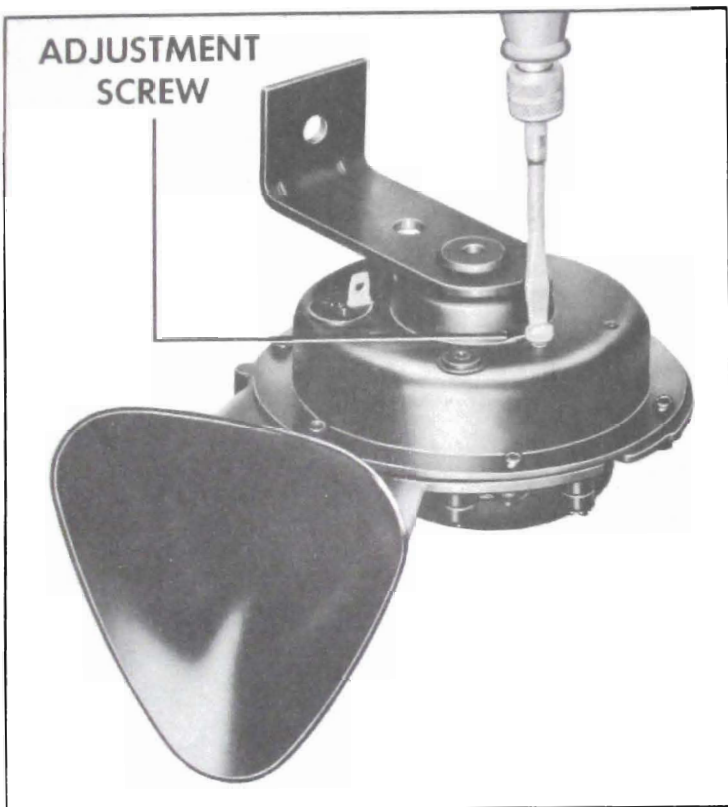

Figure 10-69—Horn Current Draw Adjustment
3. Adjust to specified current draw if necessary, by turning adjusting screw clockwise to decrease or counterclockwise to increase current draw. See figure 10-69.